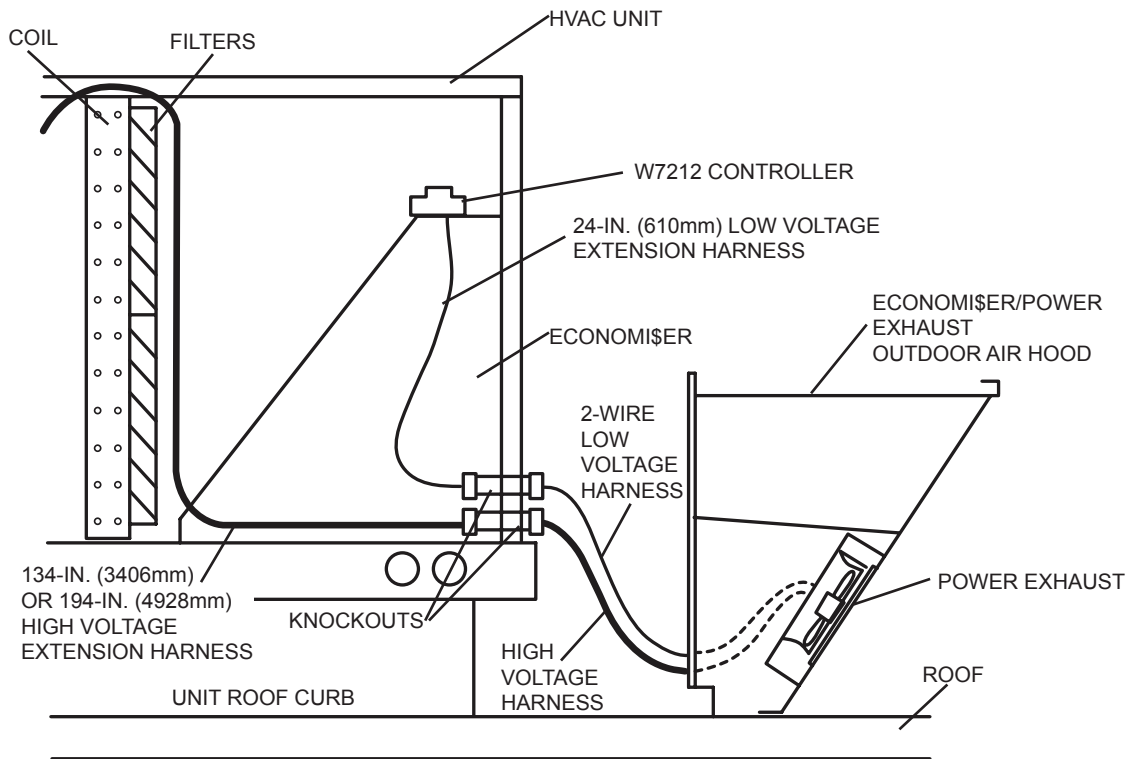

Figure 4 - Power Exhaust Harness Installation for EconoMiSer IV with W7212 Controller
4. For EconoMiSer IV: Route the other end of the low voltage extension harness to the EconoMiSer IV controller. (See Fig. 4.) The harness is connected to the controller by connecting the tan wire to the tan wire 24 VAC COM terminal on the controller. The terminal on the gray wire is connected to terminal EF1 on the controller. See Fig. 7 and 8 for EconoMiSer wiring diagrams. Install the gray jumper wire on the controller from the exhaust fan terminal (EF), to the 24 VAC HOT terminals. The gray jumper is shipped wire tied to the control harness.
7. From the rear of the EconoMiSer, connect the long high voltage extension harness plug to the power exhaust harness. (See Figs. 4, 5, and 6.)